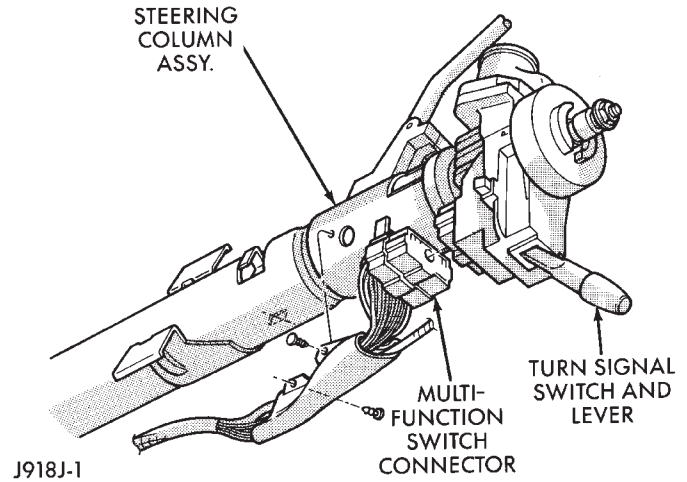

Fig. 6 Multi-Function Switch Connector
(10) Remove the lower fixed column shroud.
(11) Loosen the steering column upper bracket nuts. Do not remove the nuts.
(12) Move the upper fixed column shroud to gain access to the rear of the multi-function switch (Fig. 6).